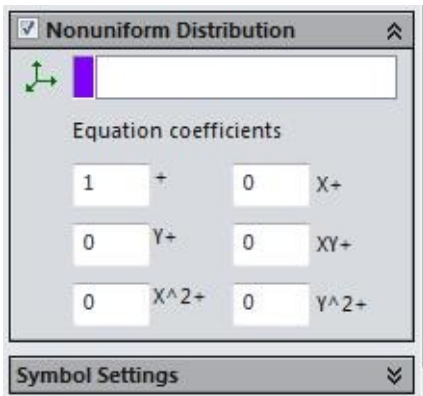

Figure-38. Non uniform force distribution
- If you have non uniform distribution of force and have an equation of distribution then click on the check box of **Nonuniform Distribution** rollout. The options related to Non-uniform distribution of force will display; refer to Figure-38.